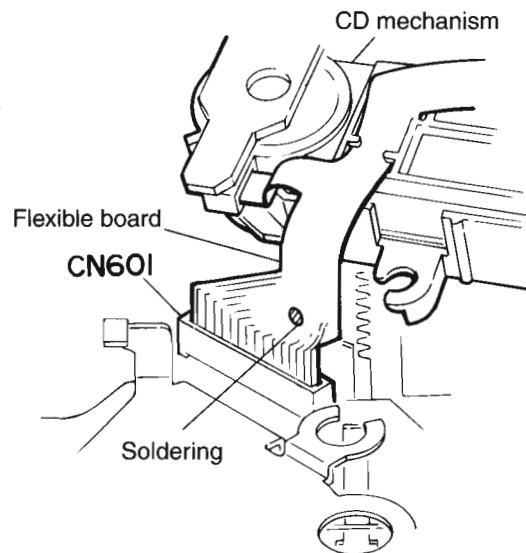

Fig. 5
9. By soldering, fill the position (in Fig. 5) of the flexible P.C. board outgoing from the CD mechanism.
10. From the connector CN601 on the CD traverse mechanism control & servo P.C. board, remove the flexible P.C. board (see Fig. 5).